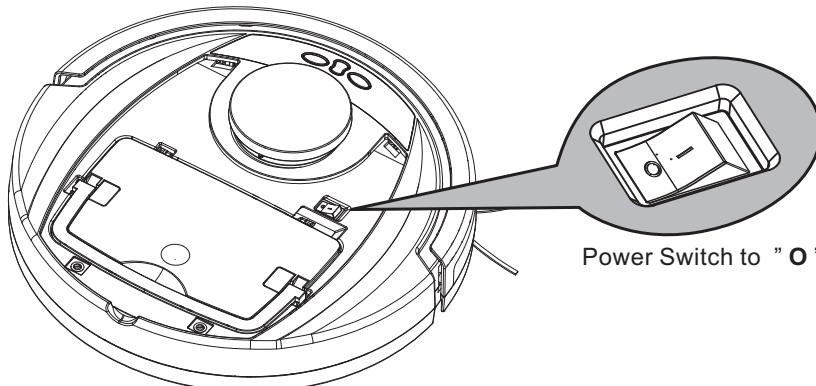

Fig. 3
3. **Power Off:** In standby mode, press power button “  ” for over 3 seconds and also turn off the power switch (Fig. 3) inside the top cover to power off the unit completely. If not using the cleaner for a period, please turn off the power switch (Fig. 3) inside the top cover completely.